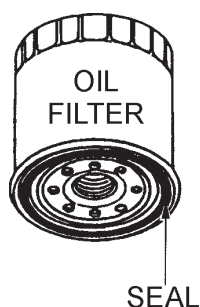

Figure 14. Oil Filter
1. Replace the engine oil filter (Figure 14) every oil change or 100 hours.